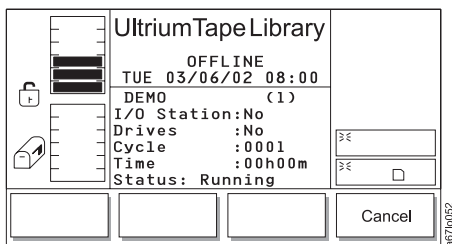

Figure 4-175. Demo Execution screen
6. Verify that the new settings are correct on the display, then press the button below the **OK** softkey to begin the demo. The Demo Execution screen displays (see Figure 4-175) with a summary of the test settings and a Status field that indicates that the diagnostic is Running. When the test completes, the screen refreshes and the Status field displays Completed.